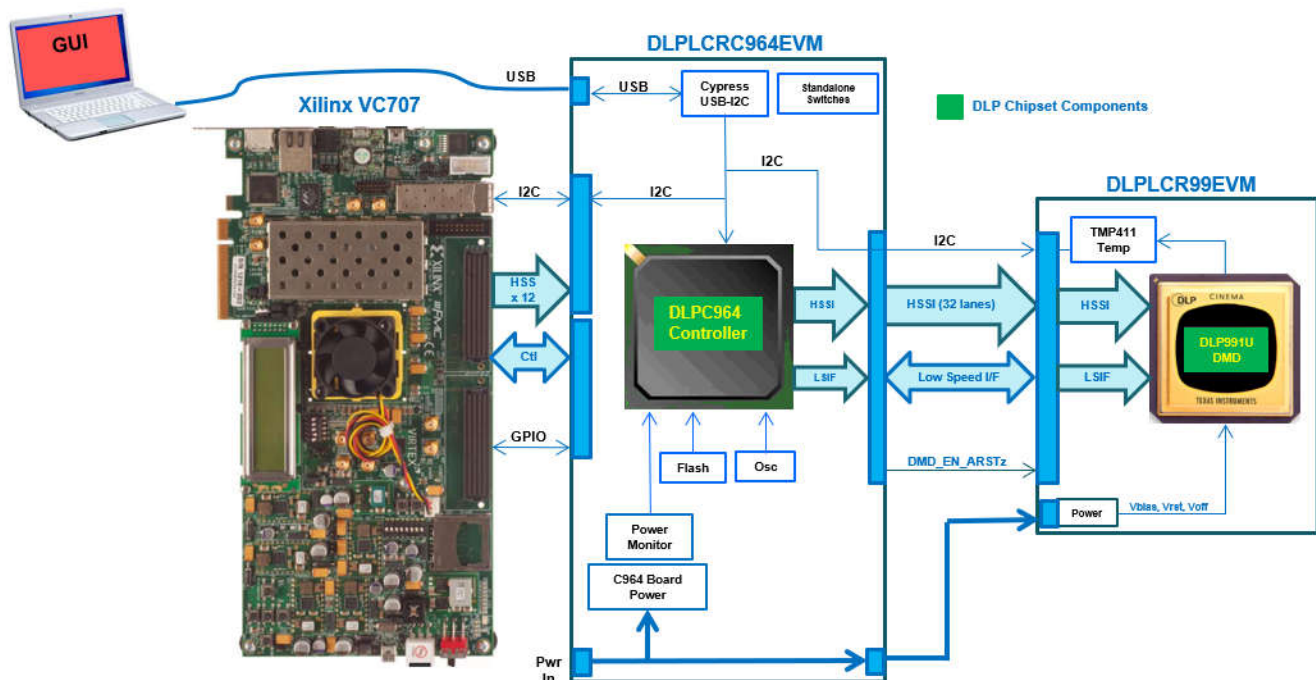

Figure 1-1. Apps FPGA Hardware Target
The Apps FPGA reference code is targeted to the AMD Xilinx Virtex-7 FPGA housed on an AMD Xilinx VC-707 Evaluation Board. Figure 1-1 shows how the VC-707 Evaluation Board connects to the Texas Instruments (TI) DLPC964 Evaluation Module (DLPLCRC964EVM), which connects to the DLPLCR99EVM.